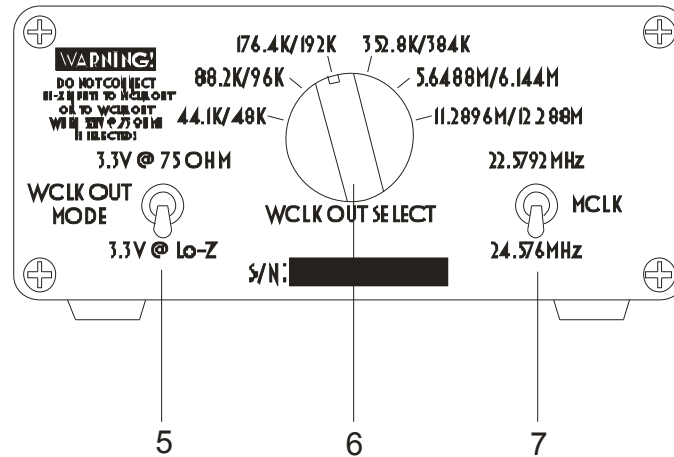

Figure 2
6) WCLK selector. This rotary switch allow for selecting between the various WCLK and “super clock” frequencies that can be obtained at the WCLK output. Each position selects a pair of values, the effective selected value depending on the setting of the MCLK selector (n°7, please read below). As an example, to obtain 192kHz, select position “176.4K/192K” and set the MCLK switch to the lower position, as in Figure 2.